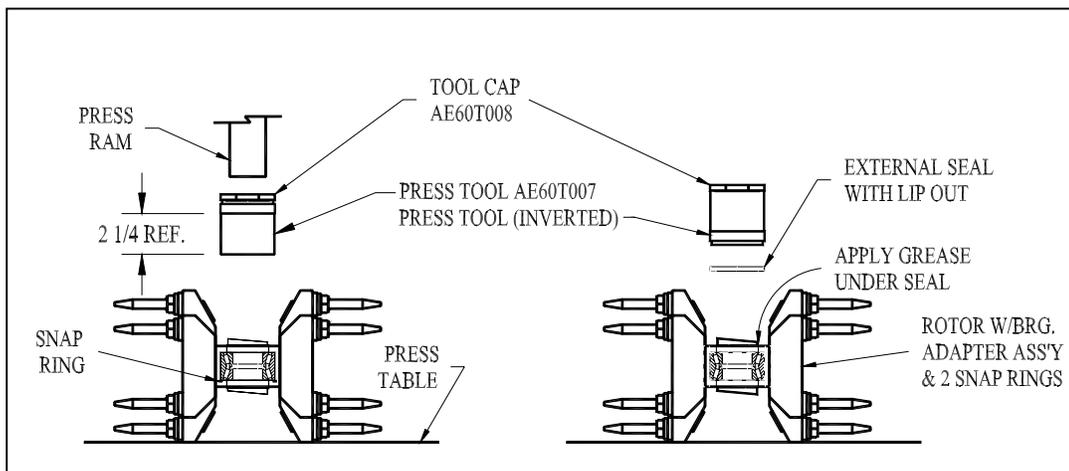

Figure 9. Rotor Hub Re-Assembly
2. Press new bearing and adapter assembly down tight against snap ring as shown in Fig. 9. If bearing is loose in hub the rotor should be replaced.